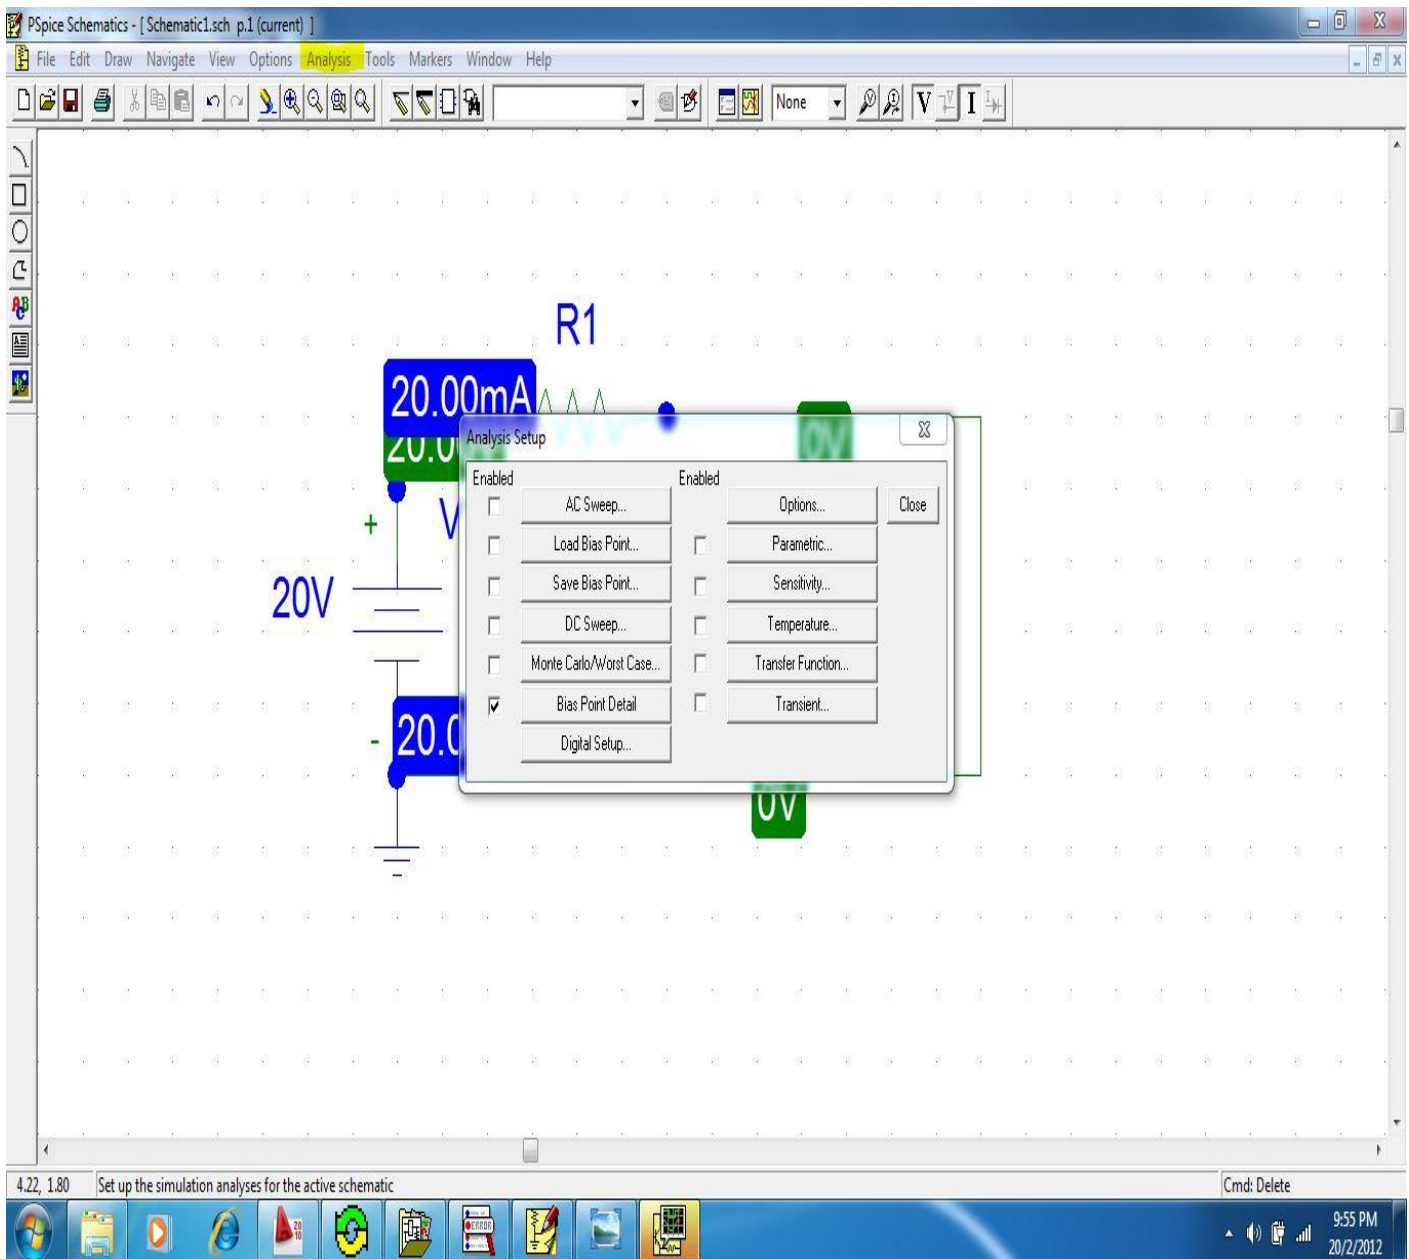

Figure-11
14. The Figure-11 shows **Analysis setup** in this you can have an option to select which analysis you want, only steady state analysis or transient Analysis or both at a time or as shown in Figure-11 can be done by selecting it.